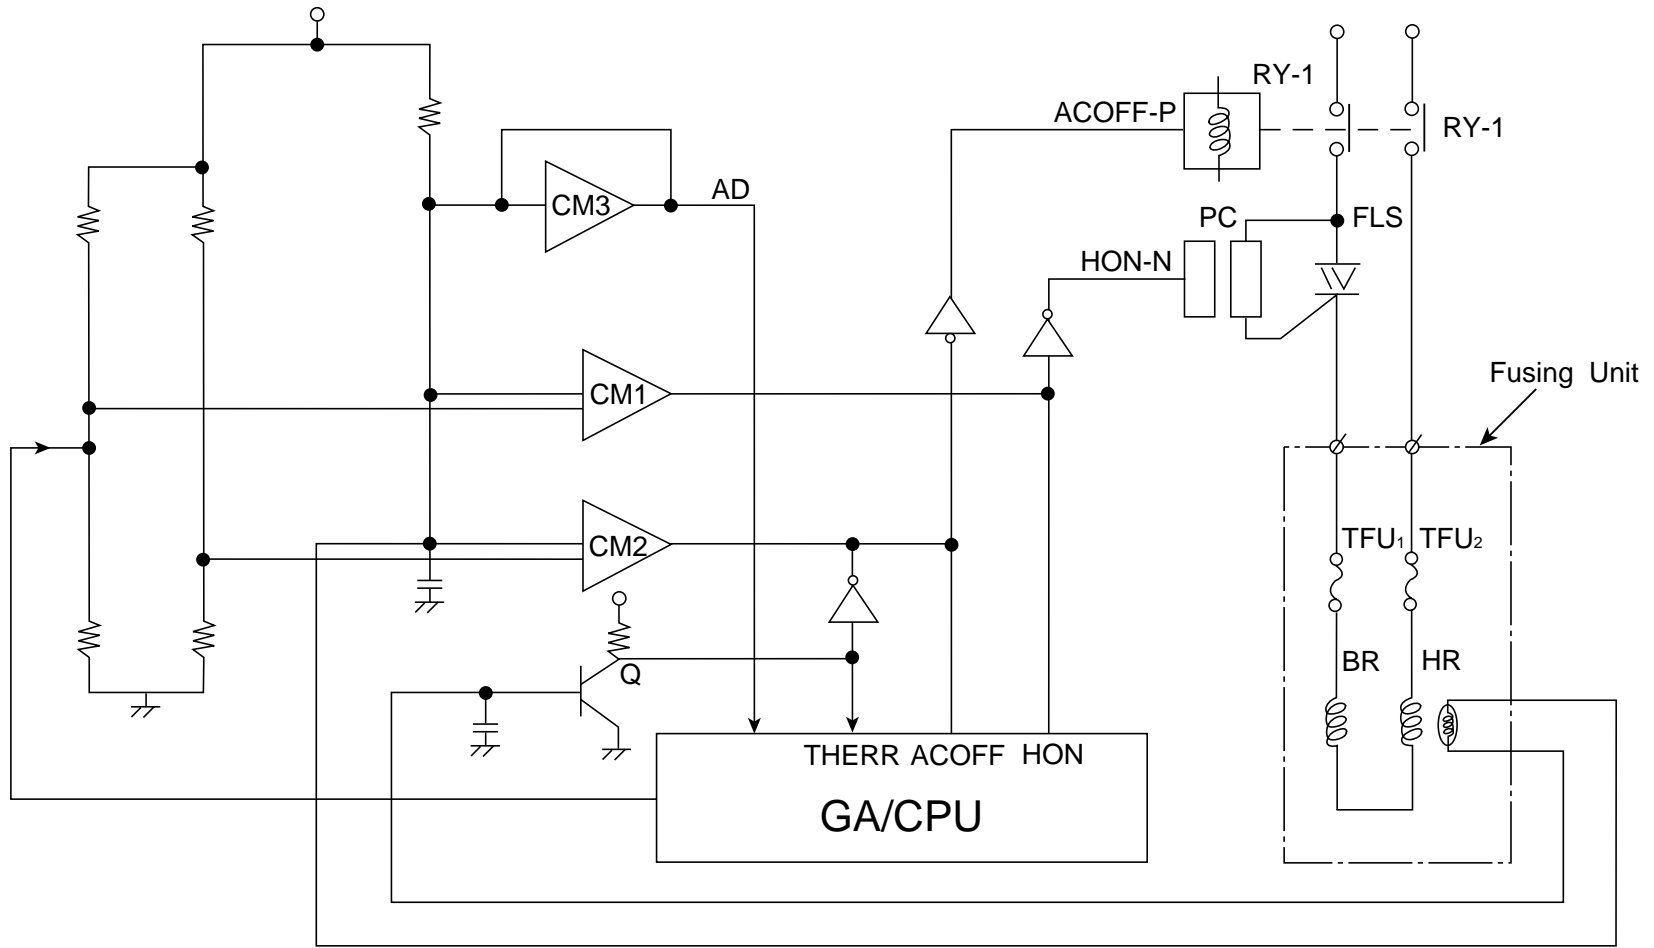

Fig 4-34: Basic Structure of Fuser Control
①. Basic Structure of Temperature Control(Fig.4-34)